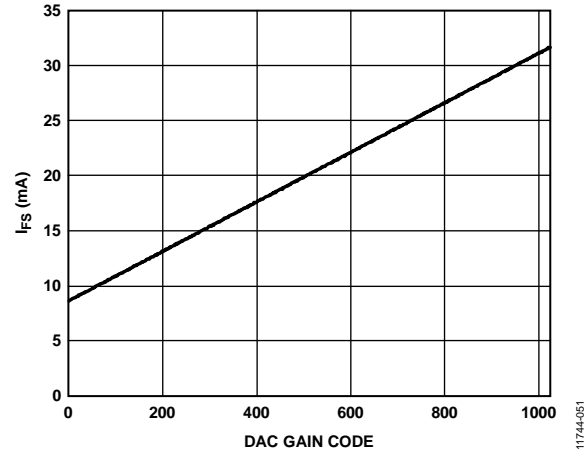

Figure 46. DAC Full-Scale Current vs. DAC Gain Code
For nominal values of V_{REF} (1.2 V), R_{SET} (10 kΩ), and DAC gain (512), the full-scale current of the DAC is typically 20 mA. The DAC full-scale current is adjustable from 8.64 mA to 31.68 mA by setting the DAC gain parameter, as shown in Figure 46.